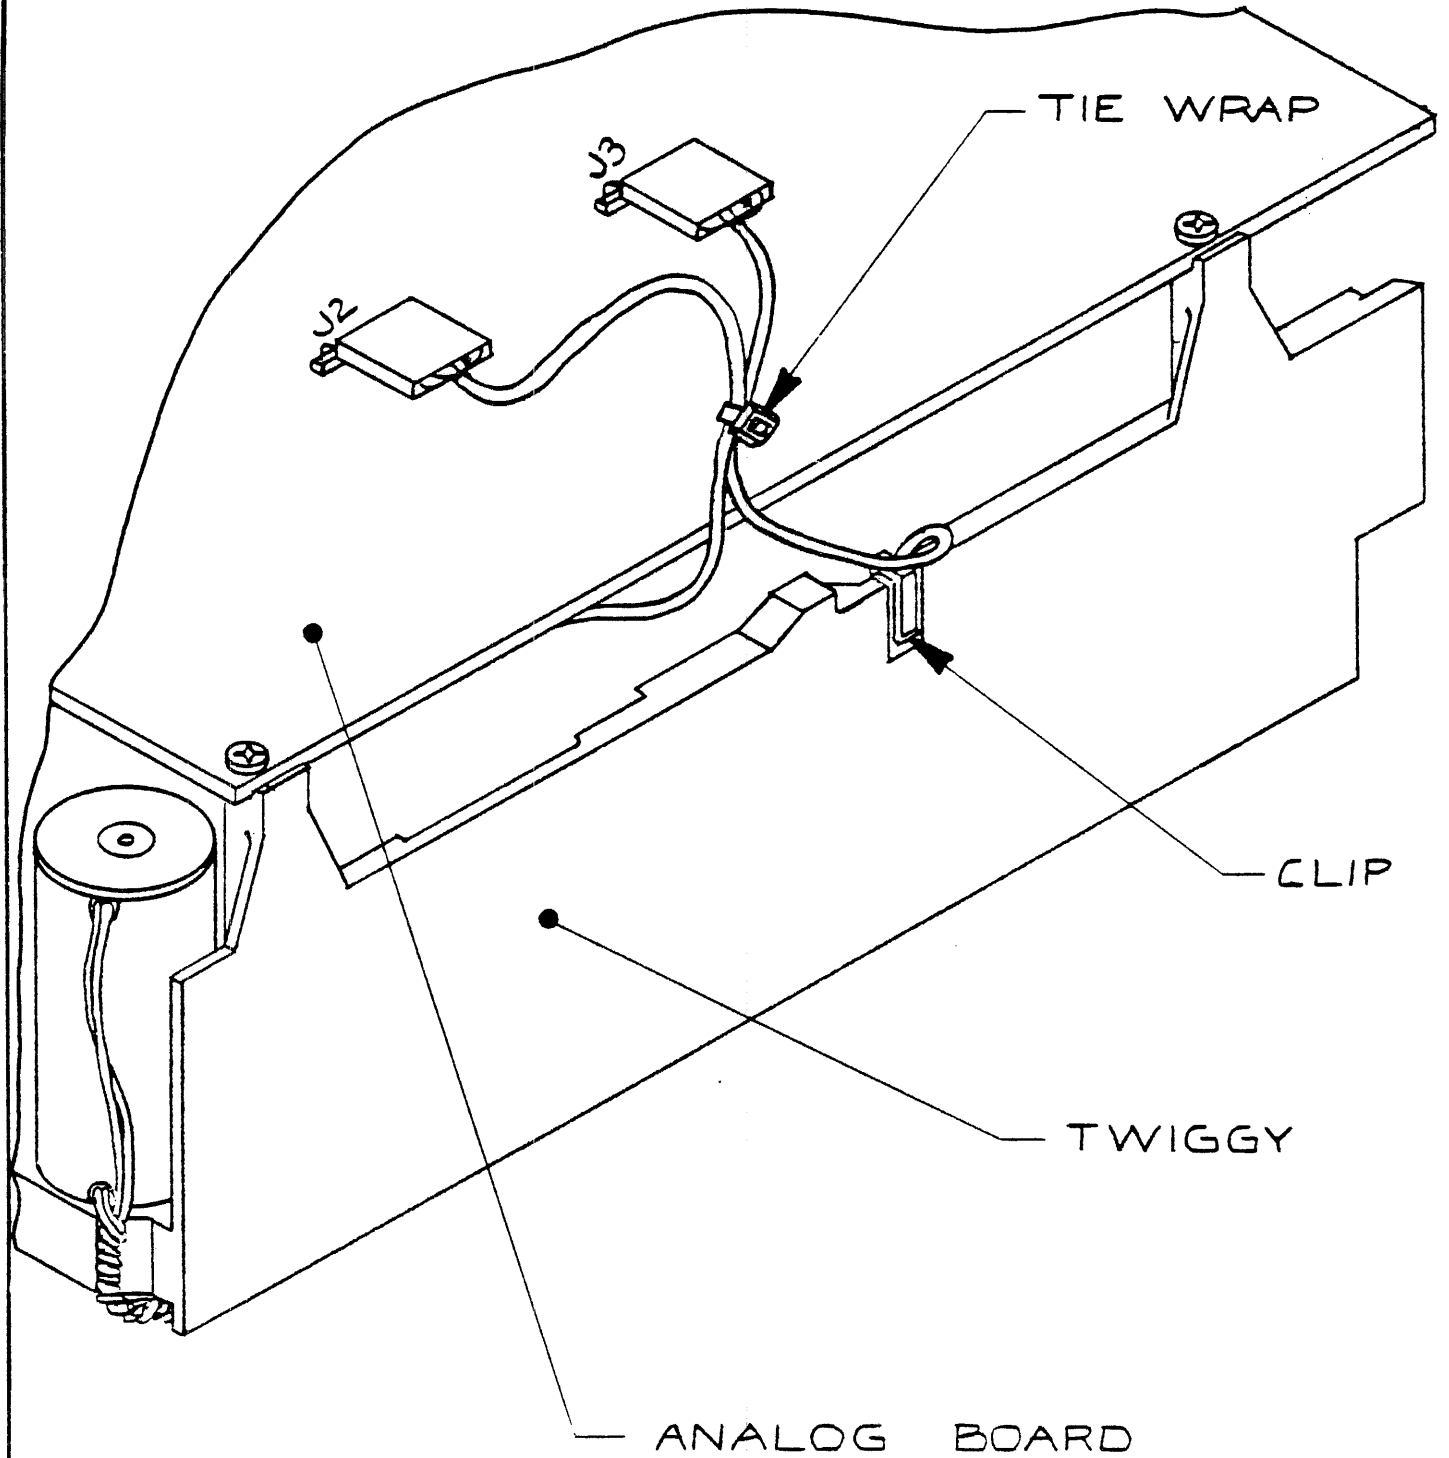

FIGURE 3. THE CORRECT TIE-WRAP OF THE HEAD CABLES
7.3.4 Tie wrap the head cables together as shown in Fig. 3.